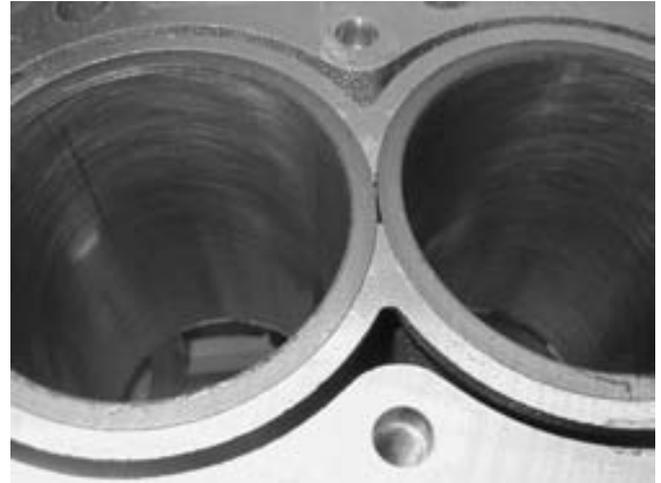

FIGURE 26-4 Cast-iron dry sleeves are used in aluminum blocks to provide a hard surface for the rings.
- Cast-aluminum blocks may have steel cylinder liners (Saturn, Northstar, and Ford modular V-8s and V-6s). The cast-iron cylinder sleeves are either cast into the aluminum block during manufacturing or pressed into the aluminum block. These sleeves are not in contact with the coolant passages and are called **dry cylinder sleeves**. See Figure 26-4.